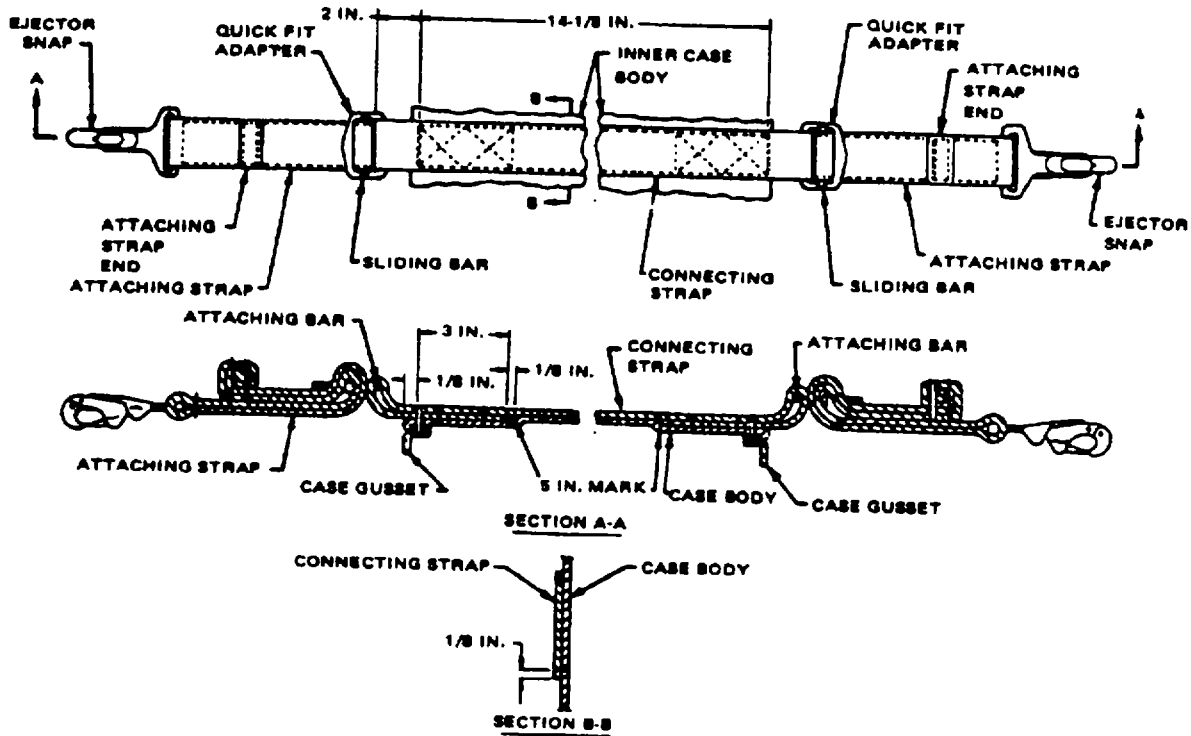

Figure 2-11. Attaching Strap Assembly Details
- (7) Install the replacement strap assembly (See Figure 2-11) in the original location on the outside of the inner case with a 14-1/8-inch-long box-stitch formation according to original construction details, using the specifics in Table 2-4. Stitching will be made in accordance with paragraph 2.12.